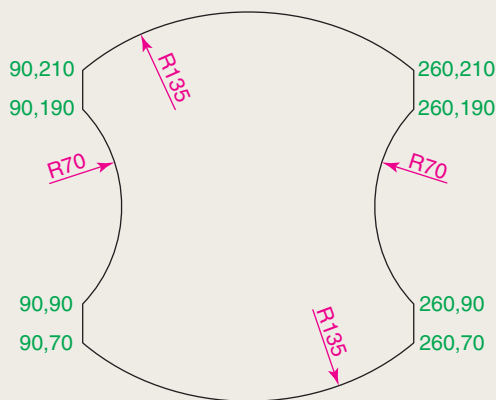

Fig. 3.46 Exercise 2
2. With the **Line** and **Arc** tools, construct the outline given in Fig. 3.46.